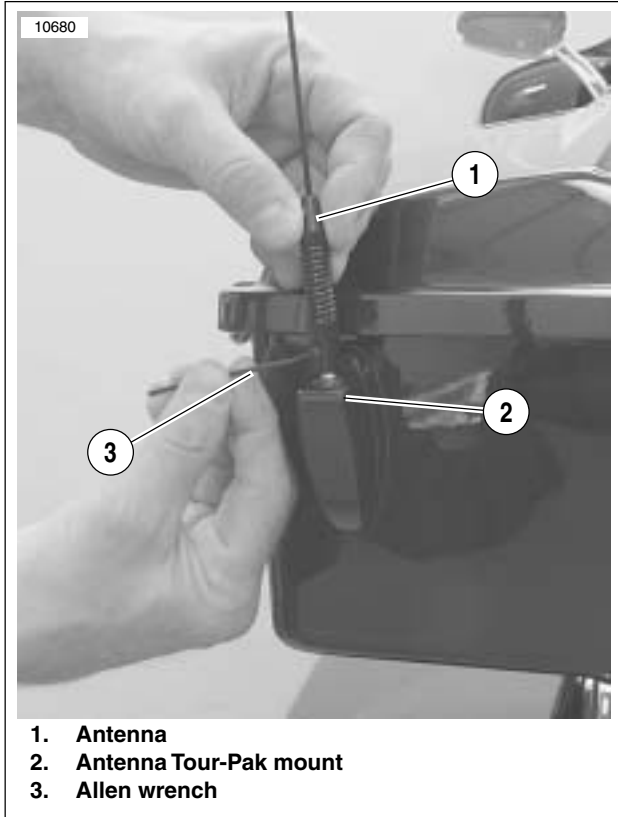

Figure 7-24. Installing Antenna on Tour-Pak
See Figure 7-24. Screw antenna (1) into antenna mount (2) on Tour-Pak and tighten set screw with allen wrench (3).